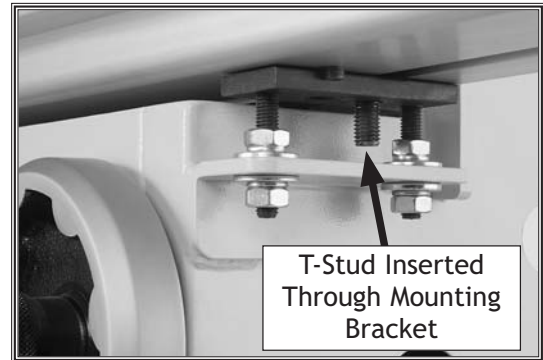

Figure 13. T-stud inserted in mounting bracket.
3. Lift one side of the sliding table, position the T-stud over the hole in the mounting bracket, then lower the sliding table so the T-stud fits through the hole, as shown in **Figure 13**. Repeat on the other side.